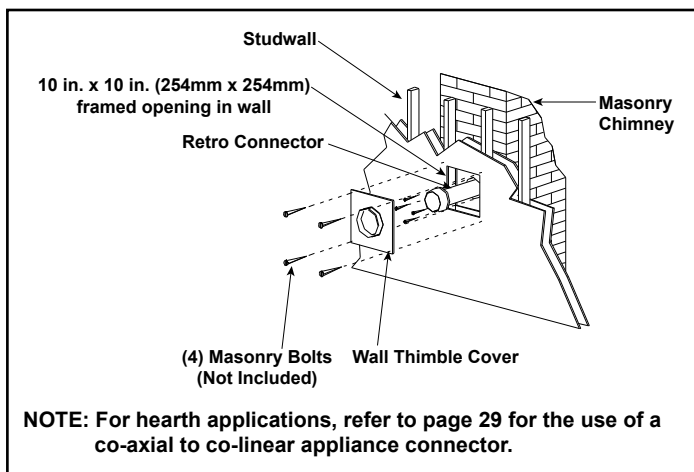
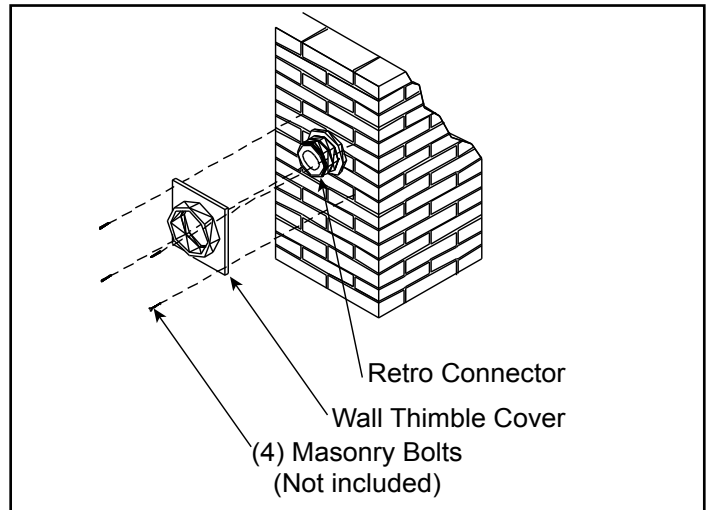

Figure 4.17
Figure 4.22
2. Once the center point of the penetration has been determined, cut a 6 in. (152mm) diameter hole in the masonry. If the hole is too large, the retro connector might not mount properly; if the hole is too small, the appliance might starve for intake air. If there is a frame wall in front of the masonry wall, cut and frame a 10 in. (254mm) square opening in the wall (centered around the 6 in. (152mm) masonry opening). If there is sheet rock only (no studs) in front of the masonry the 10 in. (254mm) opening is still needed, but does not need to be framed. If the hole is framed a wall thimble is required. This allows the retro connector to mount directly on the masonry and provide the correct clearances to combustibles. See Figure 4.17.
10. Slide wall thimble cover over retro connector and secure with masonry bolts. See Figure 4.22. If you have a framed wall in front of the masonry, use wood screws to mount wall thimble cover to framed wall, over retro connector and 10 in. (254mm) square framed opening. See Figure 4.17. If needed, add a section of direct vent pipe to the retro connector in order to extend through the opening in the wall thimble cover.